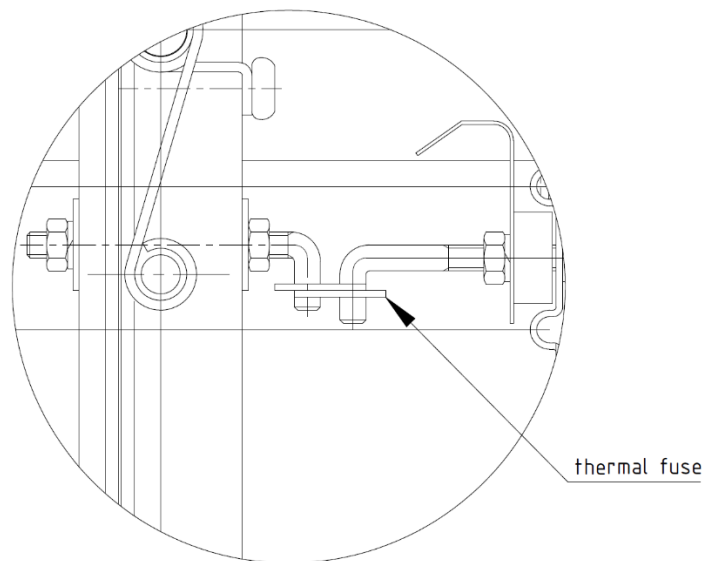

Figure 4. Thermal fuse installation method
4. After drying of the mortar (approx. 48h), remove used supports, test the fire damper operation and leave it in the fully open position (by installing the thermal fuse in the KTM type fire damper as shown in fig. 4).